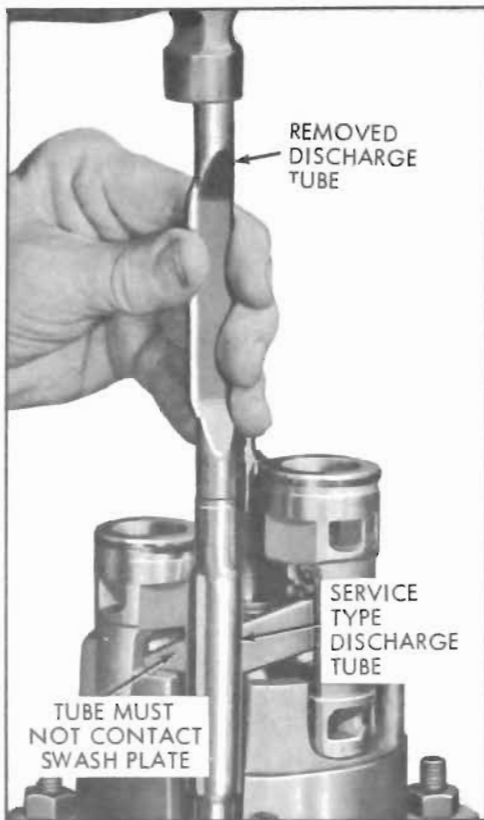

Figure 11-94—Installing Service Type Discharge Tube
39. Obtain new service replacement discharge tube and assemble into front cylinder (see Figure 11-94).